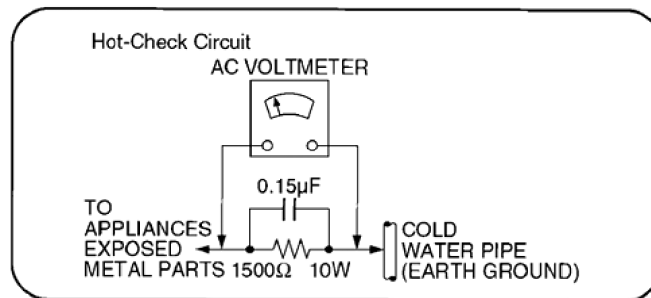

Figure 1
2. Connect a $1.5k\Omega$, 10 watts resistor, in parallel with a $0.15\mu F$ capacitor, between each exposed metallic part on the set and a good earth ground such as a water pipe, as shown in Figure 1.